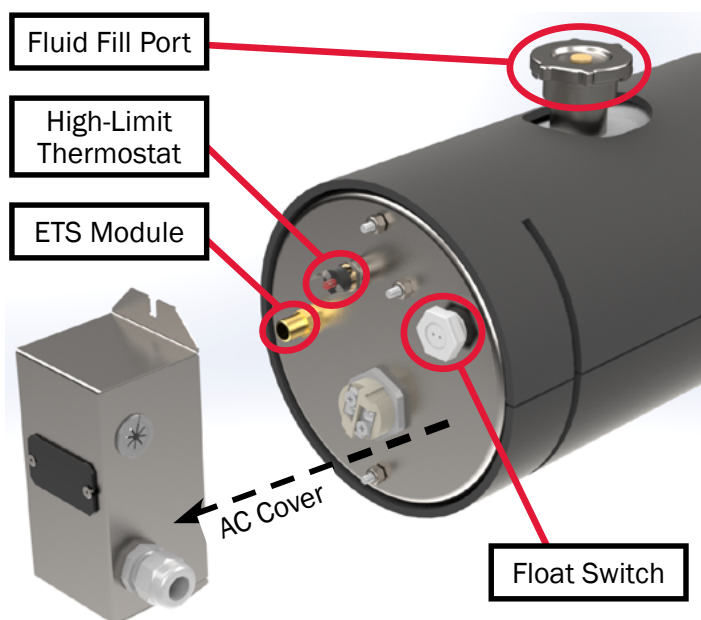

Figure 78
7. Locate the high-limit thermostat within the Aqua-Hot (see Figure 78). Test the thermostat for functionality, and replace if necessary.
8. Locate and test the ETS module (Figure 78) for functionality. Replace if necessary.